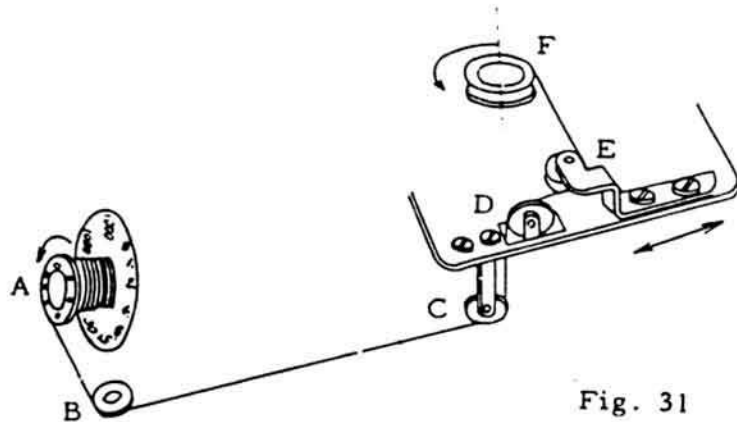

Fig. 31
1. Mounting of pulley See Fig. 31
Pulley A is supplied with the spring wound. It is not necessary to adjust unless it is unwound. Make 2 to 2.5 revolution of Shutter Speed Indicator in CCW direction observing from the pulley A side (Fig. 31).